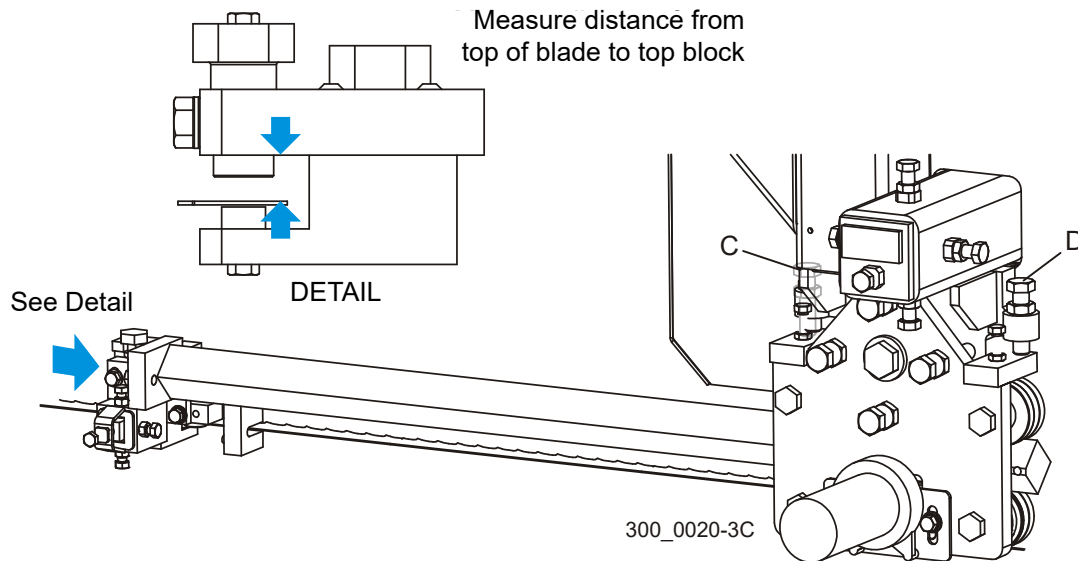

FIG. 6-14
See Figure 6-14. With the blade guide arm adjusted in near the inner blade guide, measure the distance from the top of the blade to the top blade guide block. Adjust the blade guide arm all the way out and measure again. If the two measurements are not equal with $1/32"$, adjust the vertical tilt of the blade guide arm. To adjust the vertical tilt of the arm, adjust the bolts (C & D) on the blade guide arm mounting plate. Loosen the jam nuts. Adjust bolt (C) up and bolt (D) down to tilt the arm up. Adjust bolt (D) up and bolt (C) in to move the arm toward the blade. Recheck the distance from the blade to the top block at